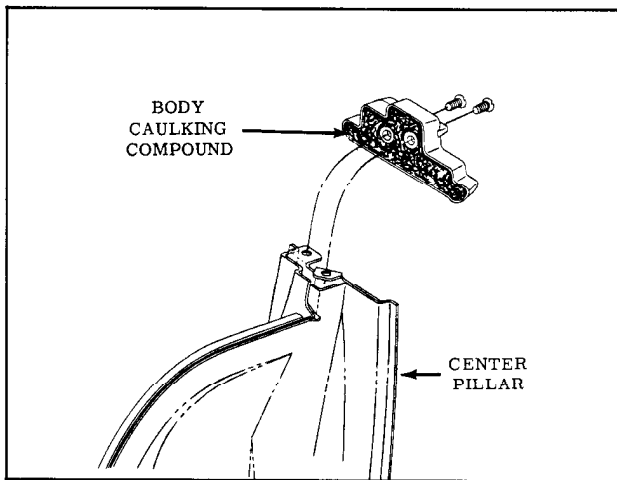

Fig. 17-38 Center Pillar Finishing Cap Sealing
2. To install, apply a bead of body caulking compound to underside of cap; then, position cap on center pillar and install attaching screws. (Fig. 17-38)